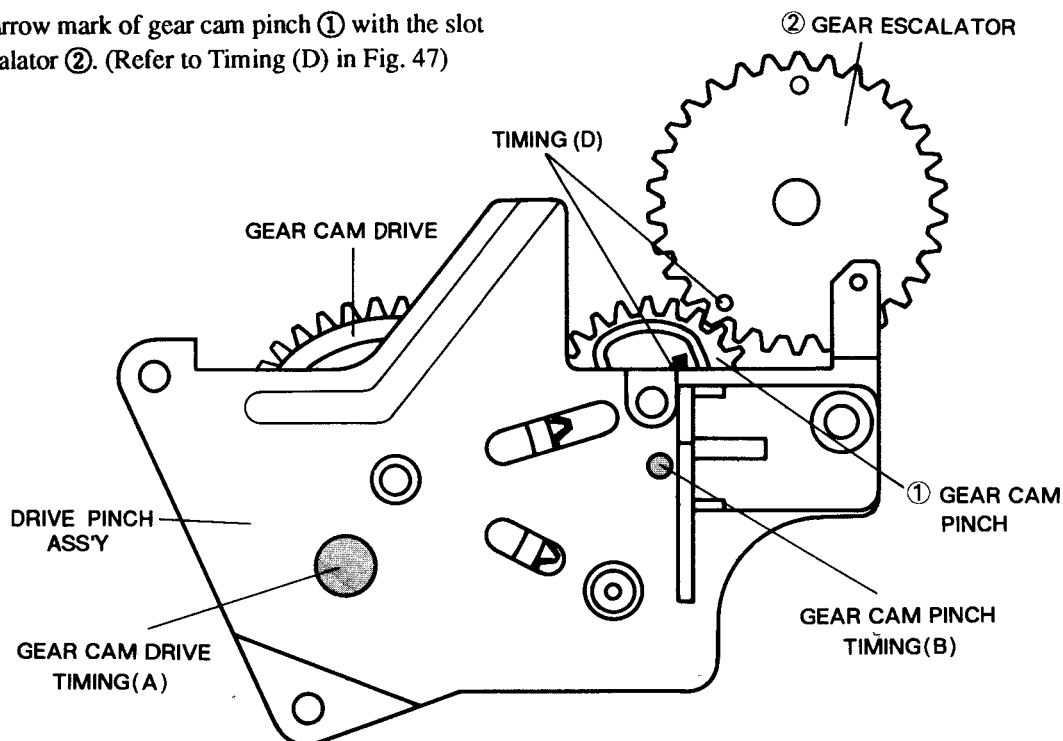

Fig. 47 Reassembly of Drive Pinch Ass'y and Gear Escalator (Top View of Drive Pinch Ass'y)
4. Align the arrow mark of gear cam pinch ① with the slot of gear escalator ②. (Refer to Timing (D) in Fig. 47)